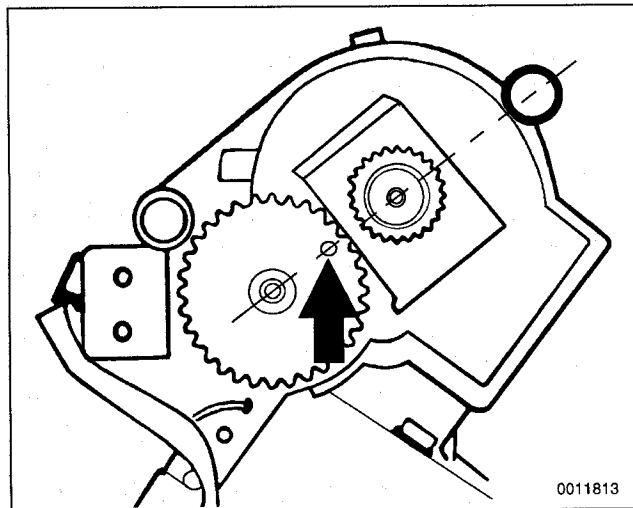

Fig. 8. Sunroof motor in "closed" position. Hole (arrow) in large gear aligns with shafts on both gears (to mid-1994).
4. Installation is reverse of removal. Be sure the motor is in the "closed" position before installing it to the sunroof carrier. See Fig. 8.